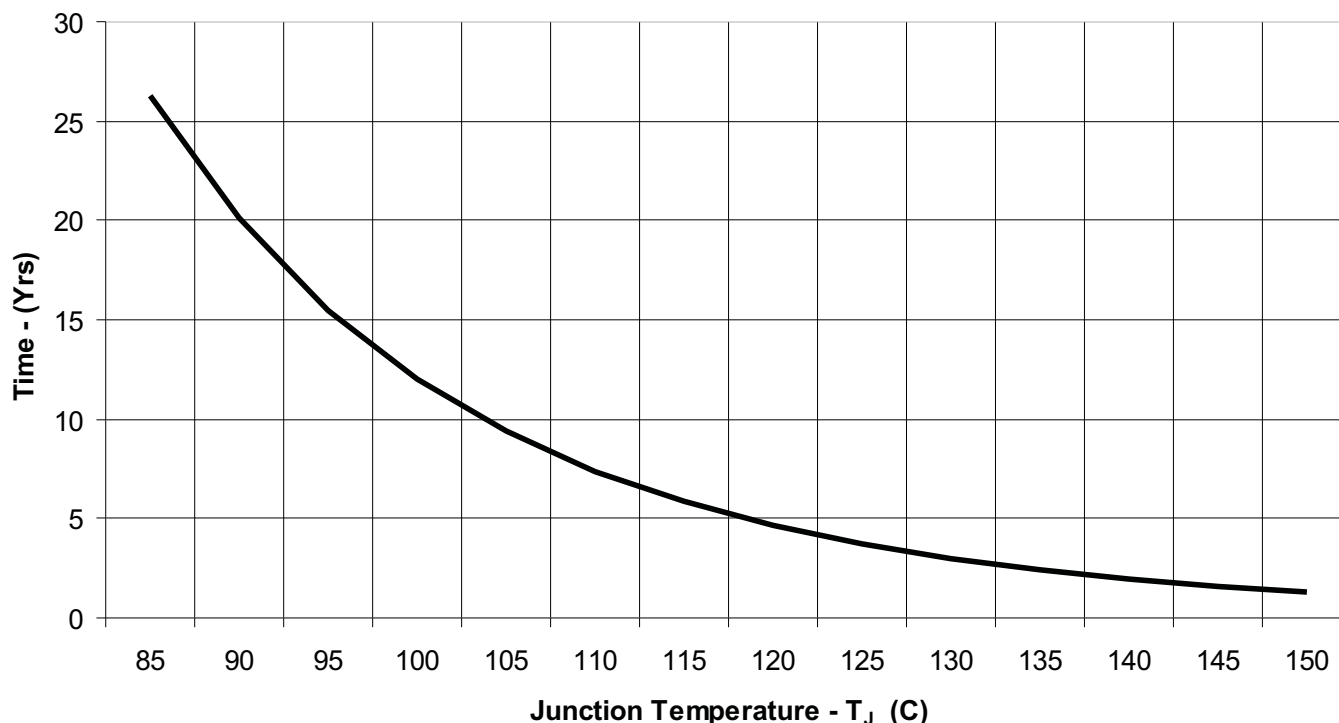

Figure 28. Flash Data Retention vs Junction Temperature
(1) The cumulative program time must not be exceeded when writing to a 64-byte flash block. This parameter applies to all programming methods: individual word/byte write and block write modes.
(2) To test the flash data retention at various temperatures we make use of accelerated tests on the flash with **500-Hours Baking Time at 250°C**. These tests are wholly based on Arrhenius law and equation. For more information refer to Figure 28.
(3) These values are hardwired into the Flash Controller's state machine (t_{FTG} = 1/f_{FTG}).